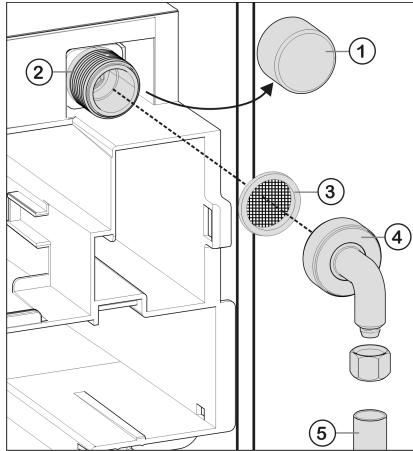

Fig. 27
- Remove the cap Fig. 27 (1) from the solenoid valve Fig. 27 (2).
- Ensure that the gasket Fig. 27 (3) is inserted in the elbow connection Fig. 27 (4) supplied.
- Connect the elbow adapter Fig. 27 (4) to the solenoid valve Fig. 27 (2) and tighten with an open-ended wrench, for example.
- Connect the domestic water supply Fig. 27 (5) (e.g. copper pipe) to the elbow connector Fig. 27 (4).